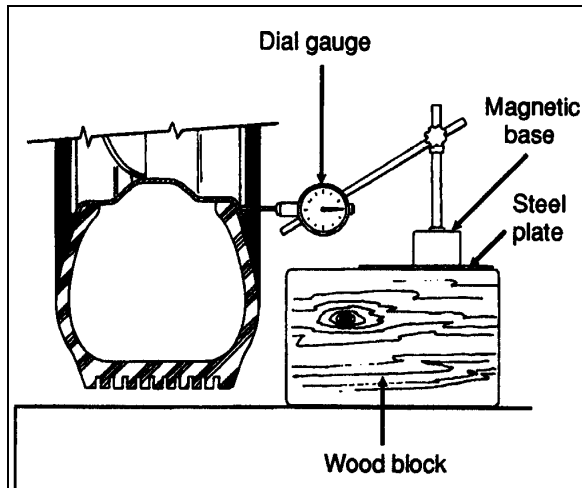

FIGURE 3: DIAL GAUGE INSTALLATION
2. Check wheel lateral run-out. Install a dial gauge as shown in figure 3, then rotate the wheel by hand one full turn. As the wheel turns, note any variation on the dial gauge;
- Apply some Loctite 243 blue onto cap screw threads then secure hub flange and rotor to unitized hub bearing using cap screws (14). Torque to [161-197 Lb-Ft (218-267 Nm)] (Refer to figure 3 for tightening sequence).